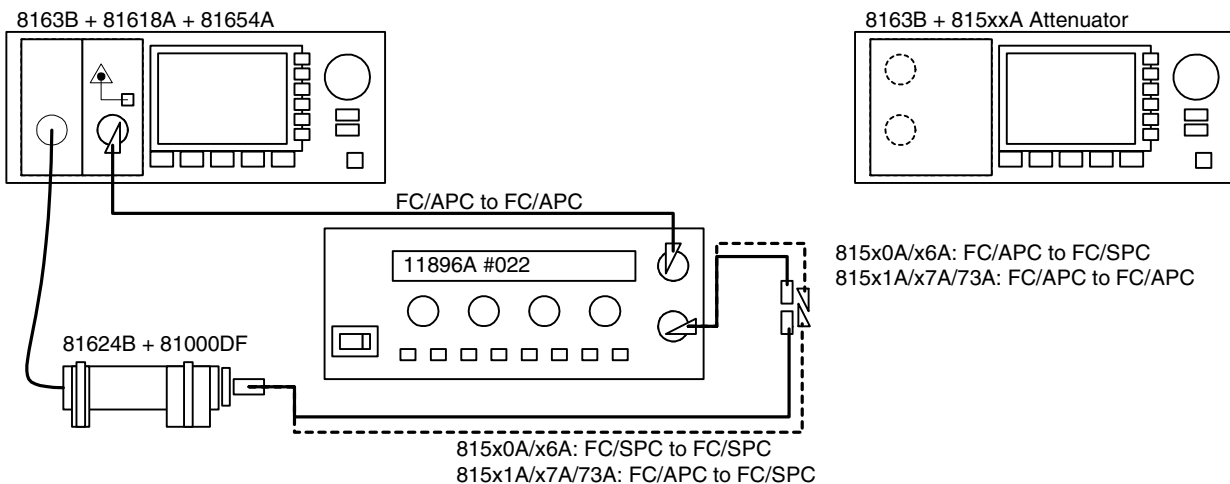
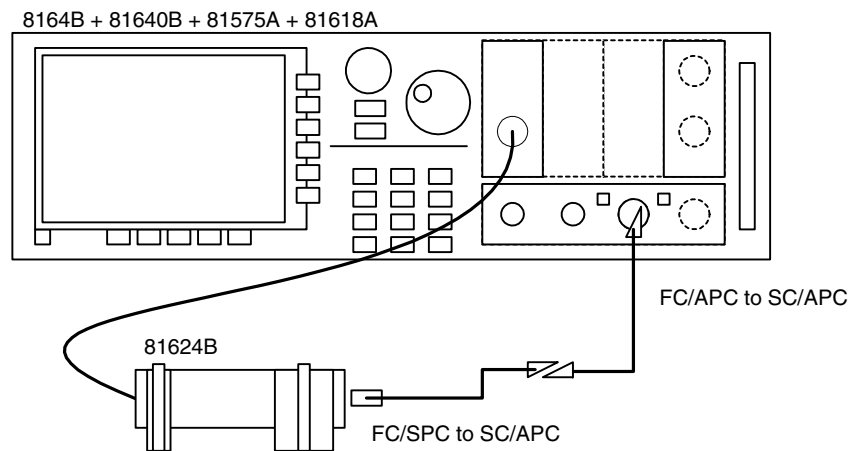

Figure 12 Insertion Loss Reference Setup (SMF-Attenuators)
Figure 13 Insertion Loss Reference Setup (81575A)
- 3 Connect the equipment as shown in Figure 12 or Figure 13.